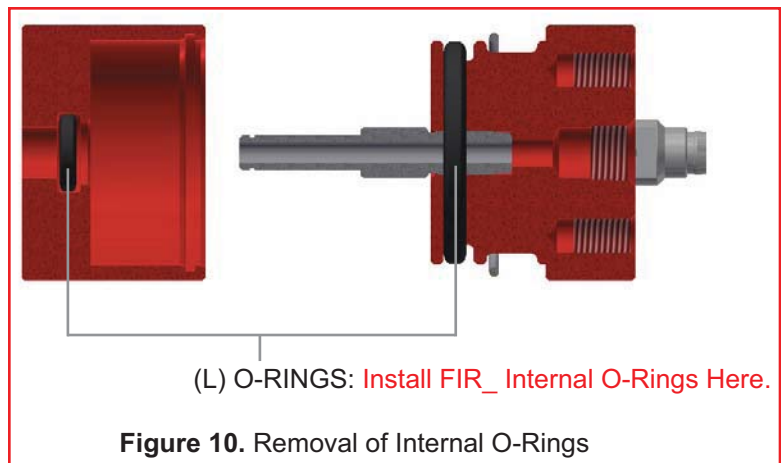

Figure 10. Removal of Internal O-Rings
- 8.2. Take care when removing the housing (G) because the actuator assembly and spring can come out. See Figure 10.